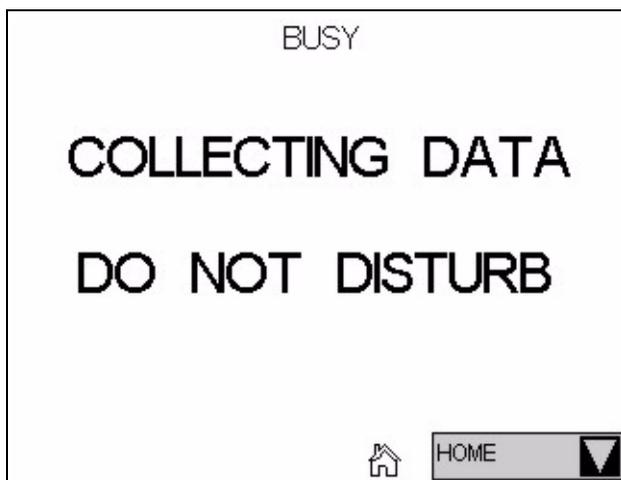

Figure C-10. Busy Page
- Touching the **Busy** button displays the **BUSY** page (see Figure C-10).